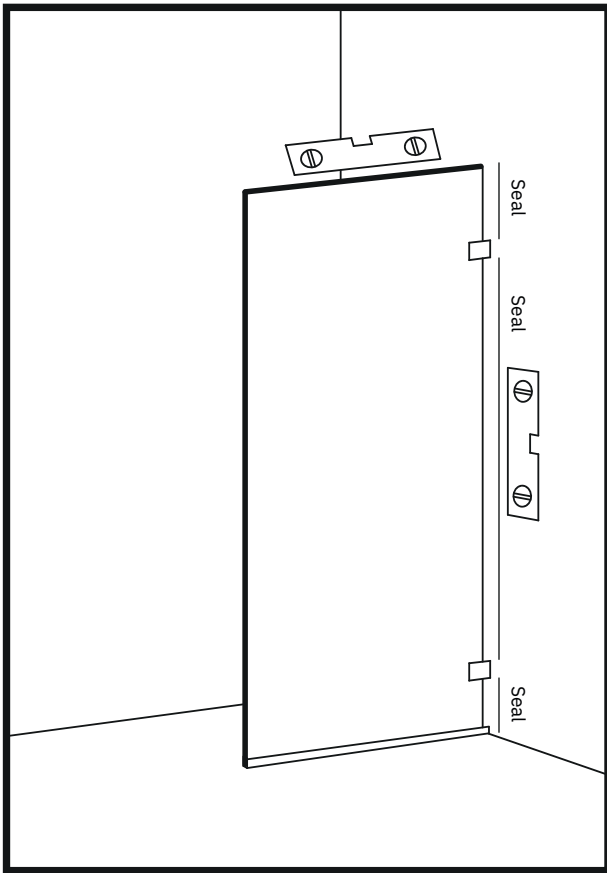

Figure 7
16. Take the gasket included in the kit and cut the parts to the correct lengths, on the hinge and wall sides. Cut out three different parts and install the gaskets. (Figure 7)